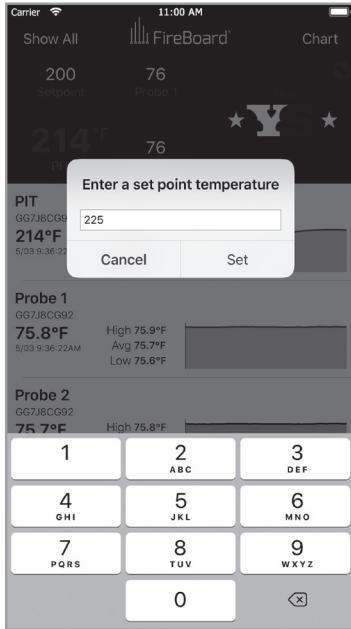

FIG 28
- You can change the pit's setpoint by tapping on the setpoint in the gray banner (**FIG 28**). Simply enter your new desired setpoint and tap the "Set" button. Please note that changes to the setpoint take a few seconds to take effect. Please be patient for them to be reflected in the cooker and in the app's dashboard.